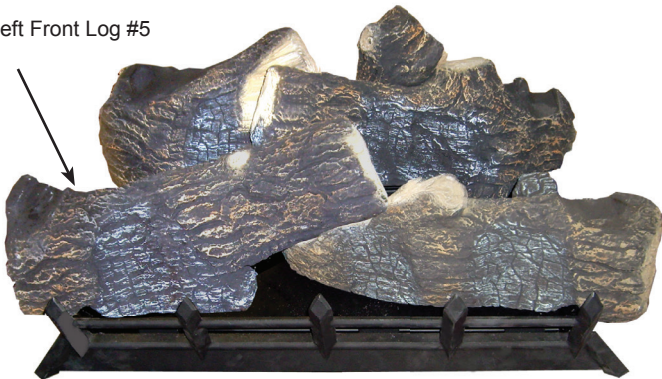

Figure 25 - Place Left Front Log #5
- Place left front log (#5) on left pin located on burner and left grate bar. Rest top right portion of log on right front log. *Figure 25*